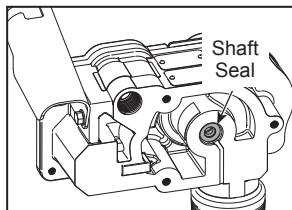

Figure 22
4. Remove the motor shaft seal by prying out with a small screwdriver (see Figure 22).